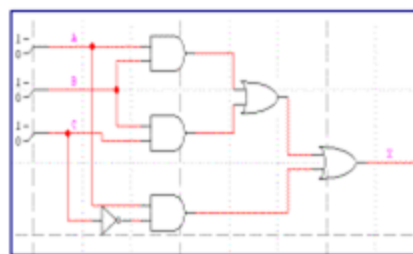

Figure 10-11
- A short wire should be connected to the output of the final OR gate and this wire should be labeled Z. See Figure 10-11. Notice that the output Z showed up in the *Timing Window*.